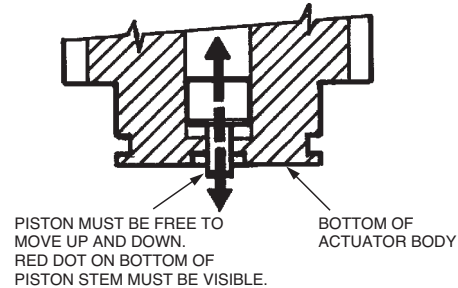

FIGURE 10
7. Before positioning new METRON PROTRACTOR housing assembly, Part No. 423958, into electric actuator body, remove the piston. Thoroughly clean piston and inside bottom surface of actuator body of any dirt or foreign material. As the pin is emitted from a METRON PROTRACTOR when it operates, a small metal disc is ejected. This metal disc may be found resting on the piston inside the actuator body. Before replacing the actuated METRON PROTRACTOR assembly with a new one, make certain this metal disc is removed from the piston area. Replace piston back into body. When replacing piston, make certain pin end is facing down. Red dot on bottom of stem must be facing down. See Figure 10.
8. Position METRON PROTRACTOR housing assembly back into electric actuator body, making certain METRON PROTRACTOR housing assembly and spring are properly seated in bottom of actuator body. See Figure 10.
11. Make certain plunger moves freely up and down. See Figure 10.
13. Make certain piston on bottom of actuator is free to move up and down. See Figure 10. **Note:** If pin is not visible in bottom hole of actuator, the piston has been re-installed incorrectly. Red dot on bottom of piston stem must be visible from bottom of actuator. Disassemble and correct.
Before installing electric actuator to top of CV-98 valve, make certain piston in bottom of actuator is free to move up and down. Refer to Figure 10.